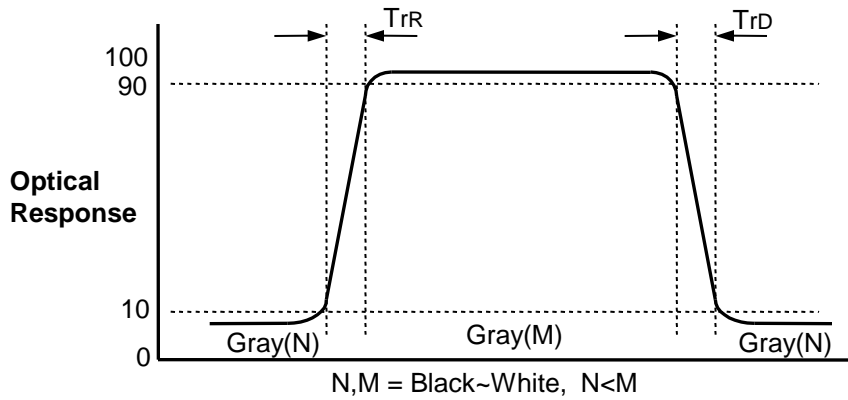

FIG. 3 Response Time
4. Response time is the time required for the display to transit from G(N) to G(M) (Rise Time,  $\text{Tr}_R$ ) and from G(M) to G(N) (Decay Time,  $\text{Tr}_D$ ). For additional information see the FIG. 3. ( $\text{N} < \text{M}$ )